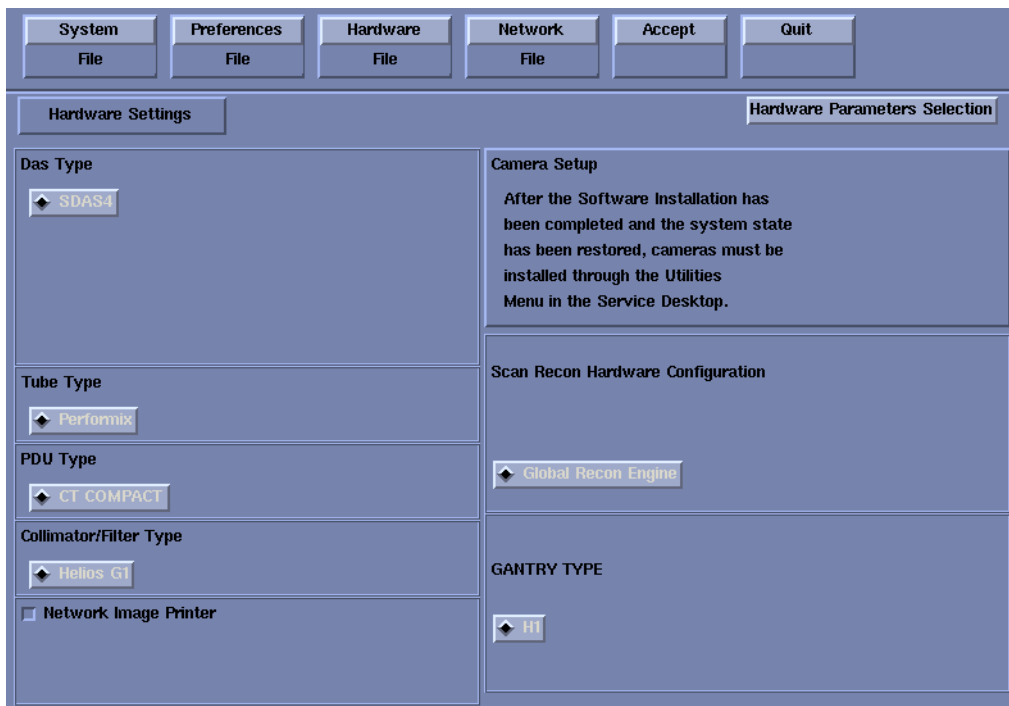

Figure 1-7 Hardware Settings Screen (Example - LightSpeed 1.X SDAS shown)
- 22.) Click the HARDWARE button. See Figure 1-7 for an example Hardware Settings screen (the